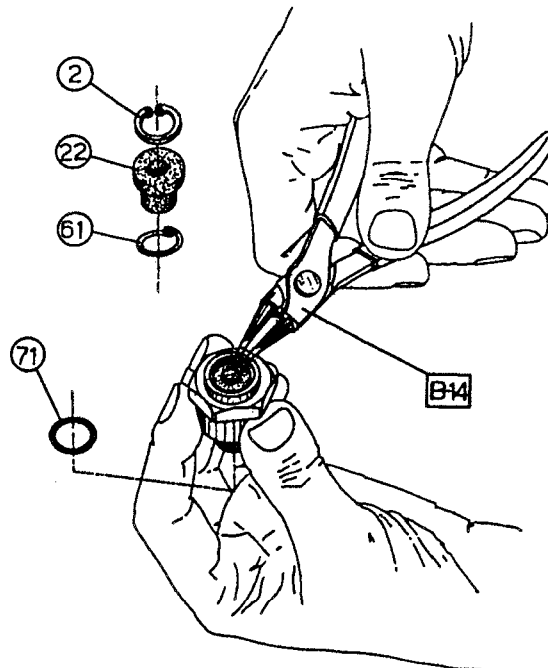

FIG. 7
14. Using the snap ring pliers (B-14), remove the snap ring (2), the tapered sintered filter (22) and the filter spring (61) from the yoke retainer nut (Fig. 7).